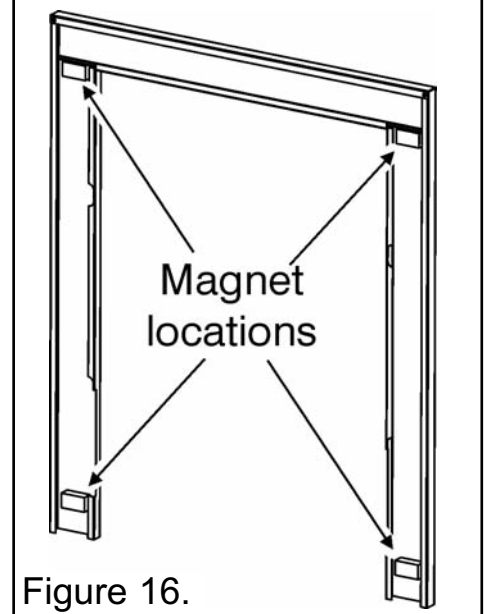

Figure 16.
1. Removing the fascia trim may have moved the magnets used to fix it to the heater. The magnets should be located as in figure 16.
2. Removing the fascia trim may have moved the magnets used to fix it to the heater. The magnets should be located as in figure 16.